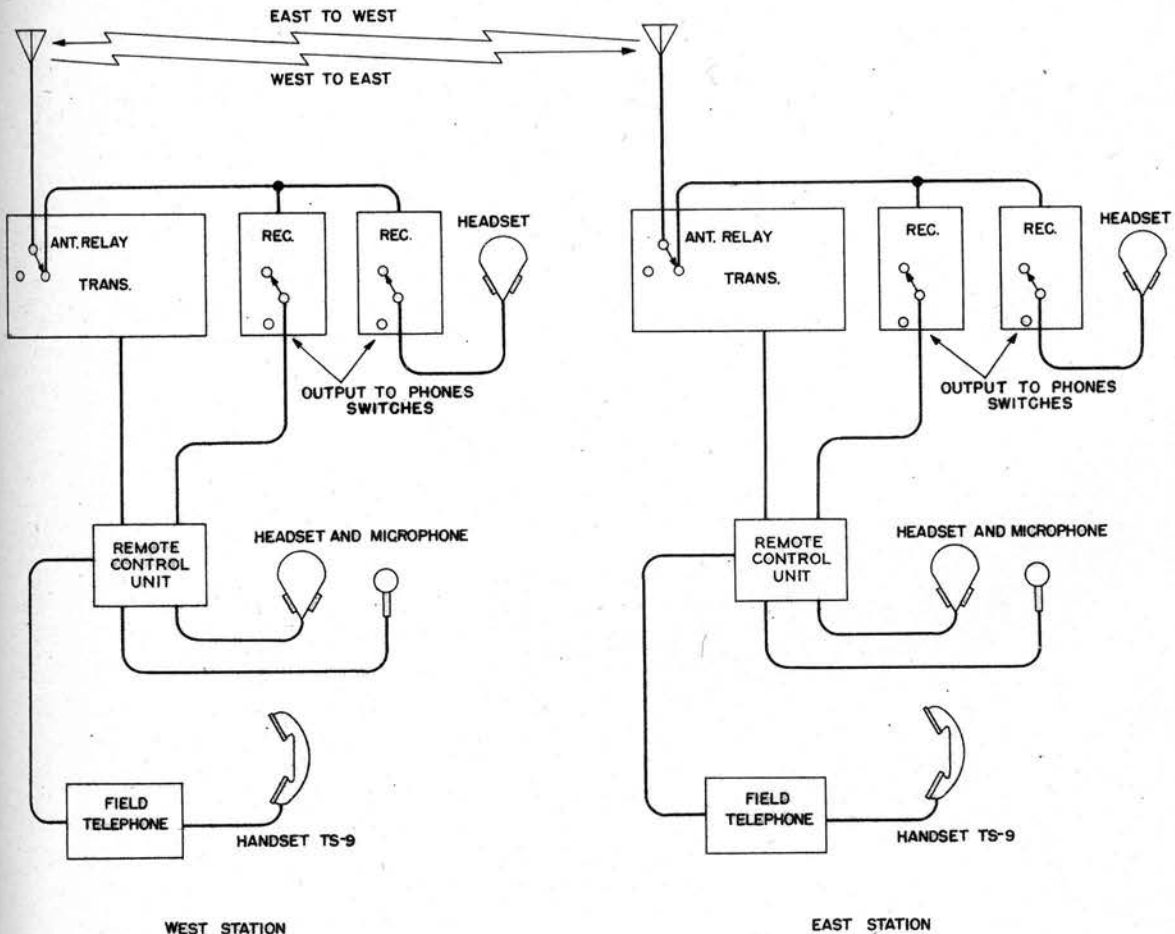

Fig. 23. Radio Set SCR-608-A: System Block Diagram
The radio set may be used in either of two communications systems: (1) radio communication only, or (2) radio-plus-wire telephone communication. In the first instance the radio equipment needs no auxiliary apparatus other than Microphone T-17, T-30, or T-33 and Headset HS-30-(\*), HS-18, or HS-23. In the second instance Remote Control Unit RM-29-D is used to connect a remotely located field Telephone EE-8-(\* ) to the radio equipment. Figure 23 shows a system block diagram.